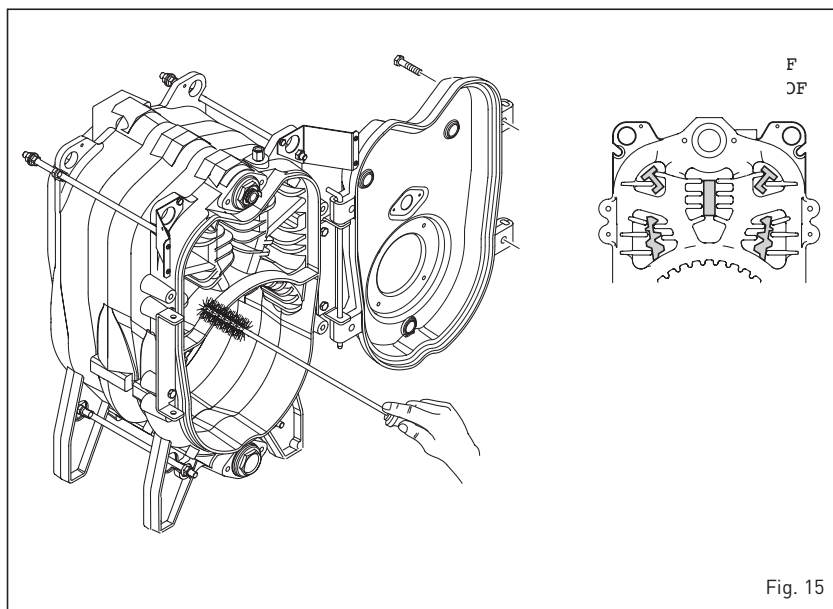

Fig. 15
4.7.1 Cleaning smoke ducts (fig. 15)
smoke ducts of the boiler. After cleaning, position the circulators in their original position (fig. 15).